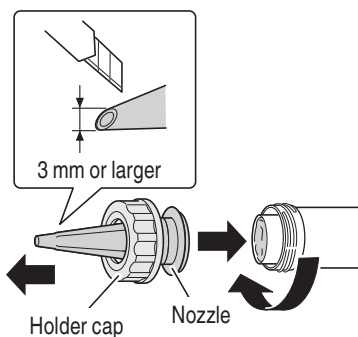

Fig. 22
- (3) Combine the holder cap and the nozzle, and attach them to the holder. Cut the tip of the nozzle to 3 mm or more before use. (Fig. 22)
- (2) Combine the holder cap and nozzle and attach them to the holder. Cut the tip of the nozzle to 3 mm or more before use. (Fig. 22)